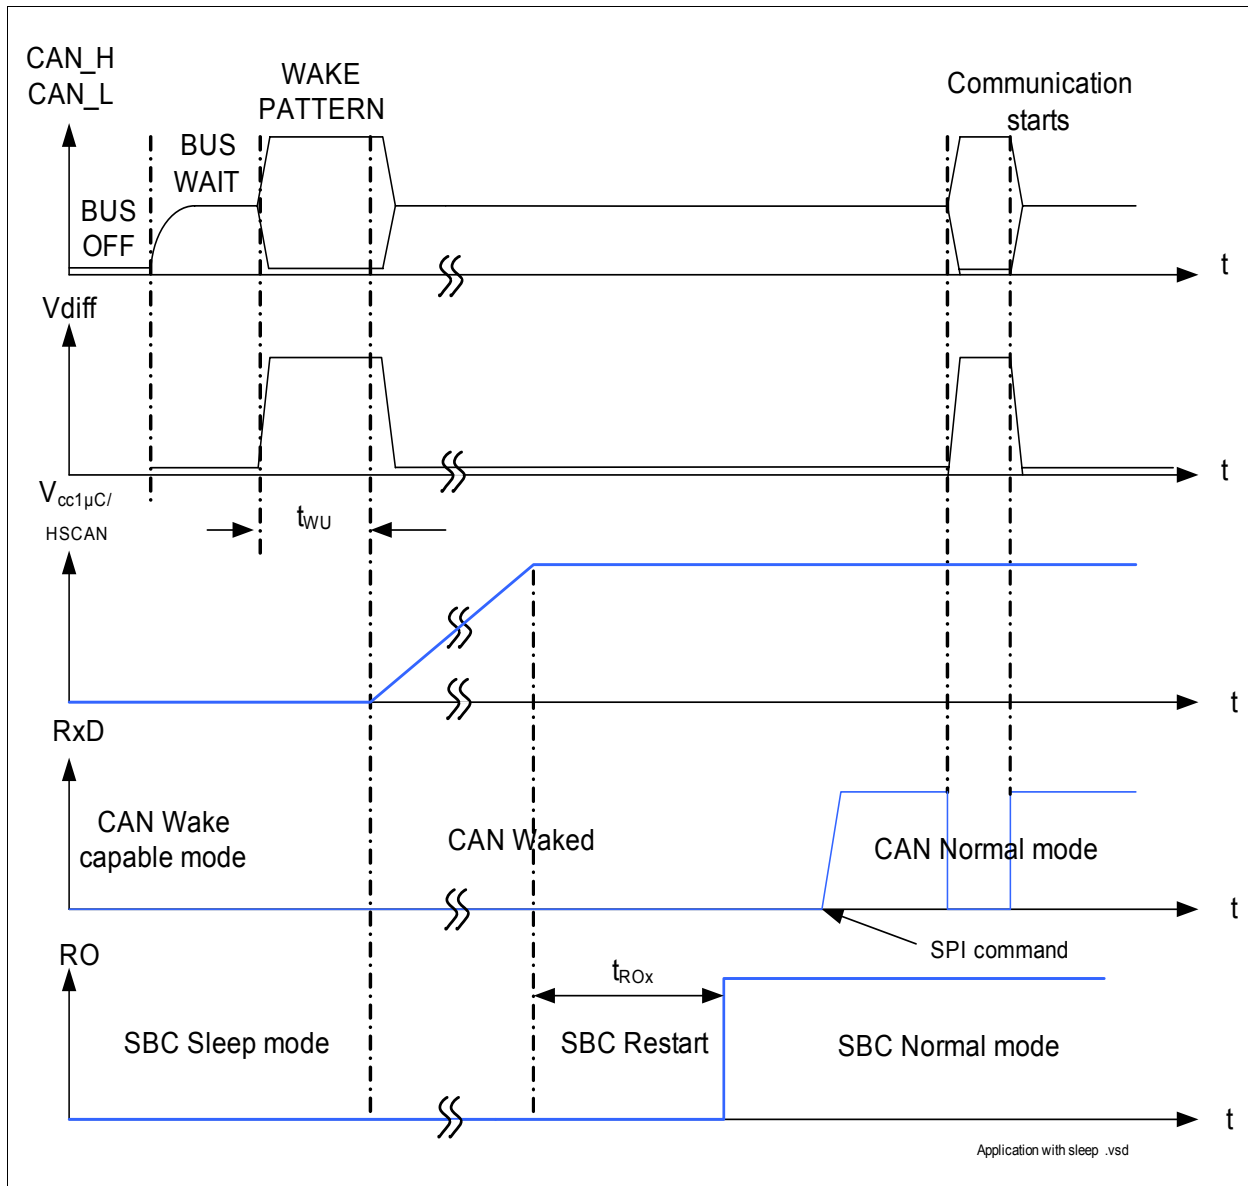

Figure 11 Timing during Transition from Sleep to Normal Mode
Refer to Figure 11 for a description of the matching of the transceiver modes with the SBC mode.
Wake-up is possible via a CAN message (filtering time  $t > t_{WU}$ ), it automatically transfers the SBC into the SBC Restart Mode and from there to Normal Mode the RxD pins in set to LOW, see Figure 11. The microcontroller is able to detect the low signal on RxD and to read the wake source out of the “Wake Register Interrupt” register (000) via SPI. No Interrupt is generated when coming out of Sleep Mode.
In SBC Sleep Mode, a wake-up on the CAN cell will set the SBC to Restart Mode automatically if the CAN Wake Capable Mode of the SBC is selected via SPI. **Figure 11** shows the typical timing.